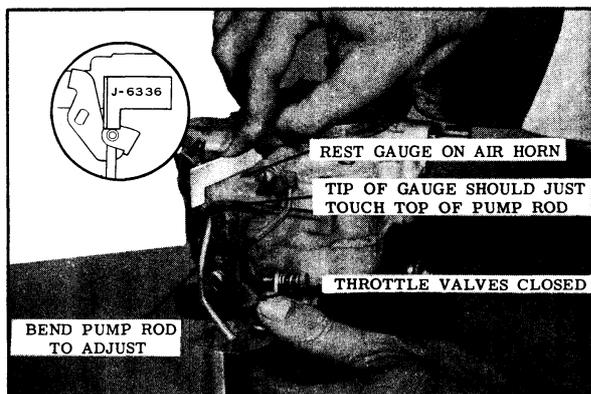

Fig. 8-140 Pump Rod Adjustment
2. Hold throttle valves closed. Check distance from top of air horn to top of pump rod with gauge J-6336. (See Fig. 8-140)